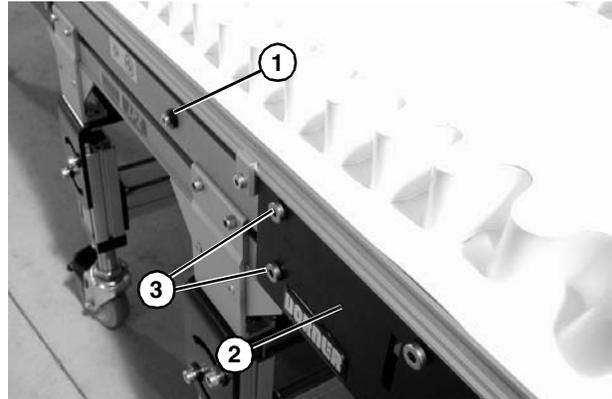
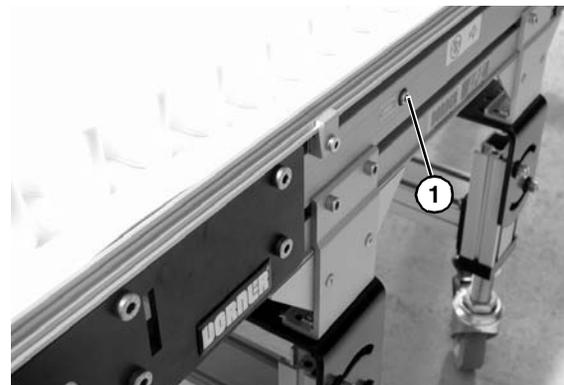

Figure 22
Figure 23
- On tension end of the conveyor, identified by the pinion locking screw (Figure 22, item 1), push in head plate assembly (Figure 22, item 2): Loosen the pinion locking screw (Figure 22, item 1), adjust the pinion torque screw (Figure 23, item 1). On both sides of conveyor, loosen the two tail clamp bolts (Figure 22, item 3), and push head plate assembly (Figure 22, item 2) inward.